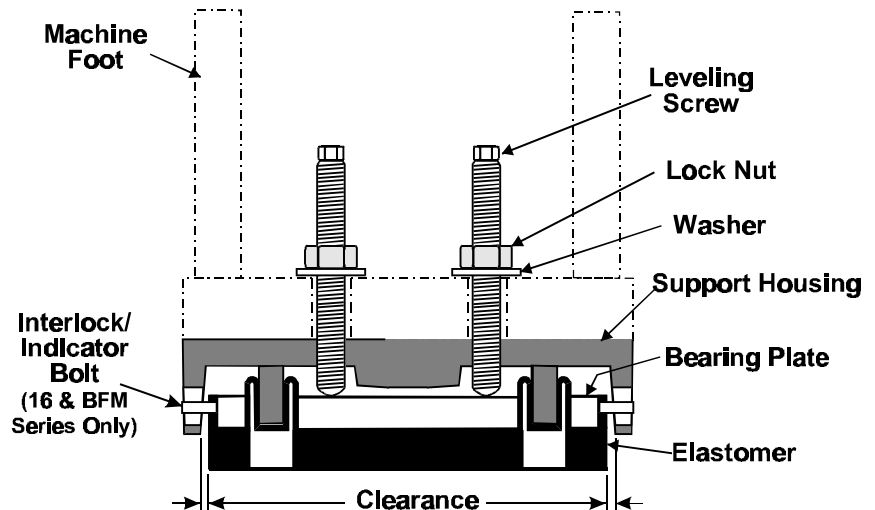

Figure 2 (Cutaway View)
5. Thread the leveling screws into the isolator by hand or with a small wrench. The leveling screws should turn easily into the isolator housing until it contacts the internal bearing plate (see Figure 2). If it does not, remove the leveling adjustment screw and check for proper clearance, damaged thread, or debris in the threaded hole.
7. For proper isolator performance, there should be clearance between the resilient cushion (elastomer) and the inside surface of the isolator's support housing as shown in Figure 2. If there is not clearance, lift the machine at that location and center the resilient cushion in the isolator housing.